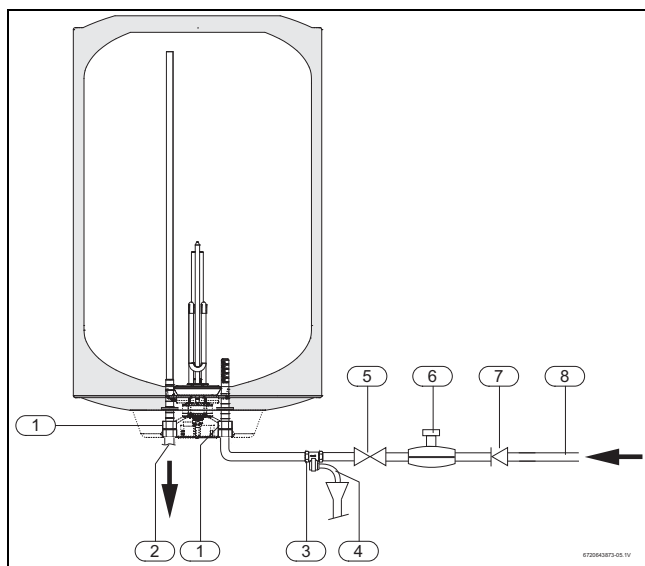

Fig. 7 Water connection
- ▶ Install a safety valve at the water inlet of the appliance (→ Fig. 7).
If the pressure at the cold water inlet is superior to that of 80% of the maximum pressure of the appliance at, ie: 6,4 bar, install a reducing valve (Fig. 7).
In order to avoid problems caused by sudden pressure changes, we recommend the installation of a anti-reduction valve at the appliance (Fig. 7, [7]).
- ▶ Turn off the water cut off valve (→ Fig. 7).